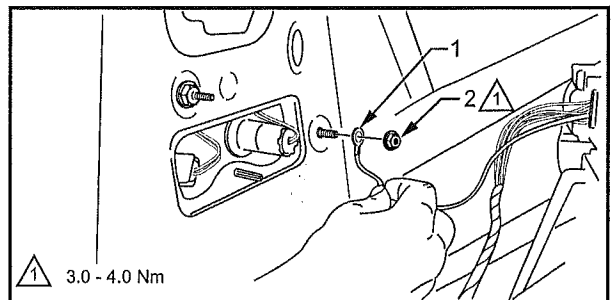

FIGURE 8
- 11. Fit the power harness earth wire (1) behind the LHS light cluster retaining nut (2). Refer to Figure 8.